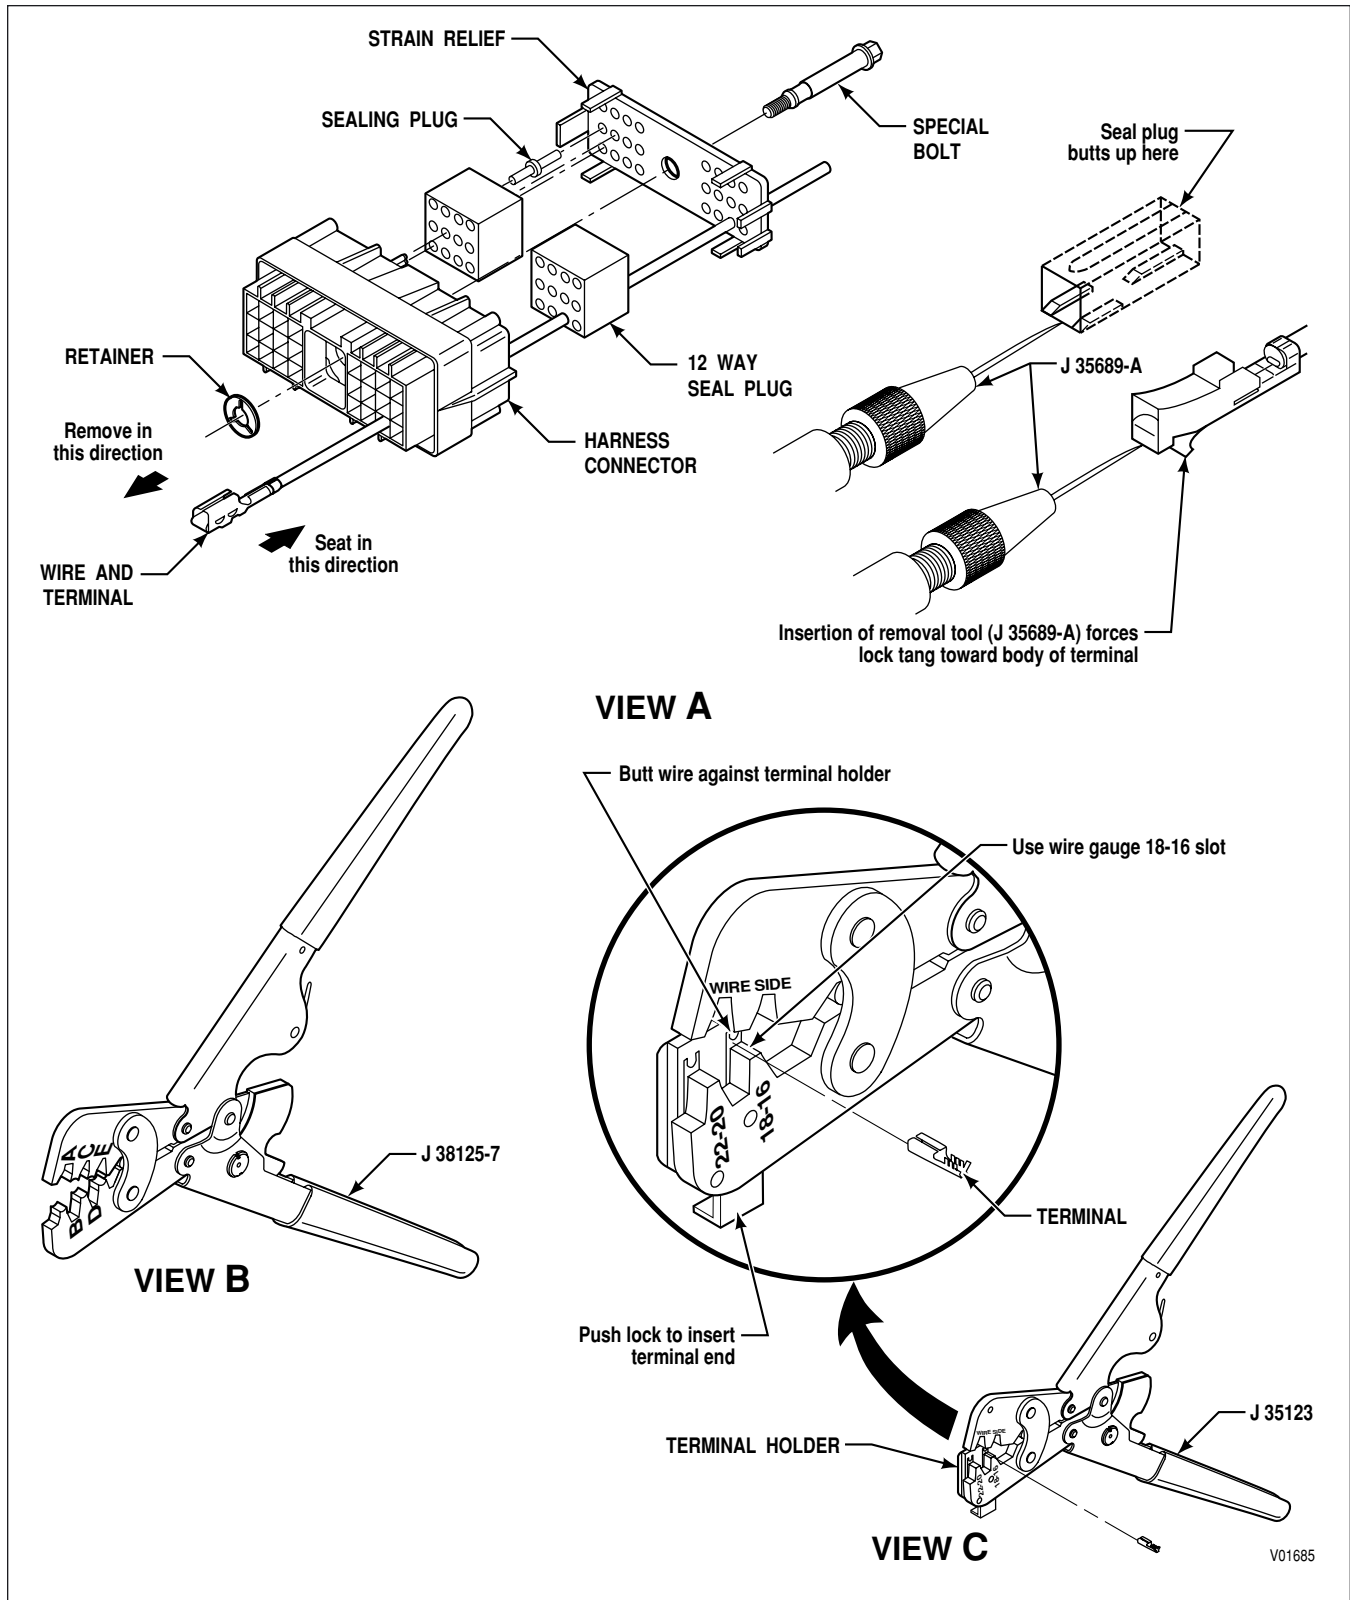

Figure C-2. Delphi-Packard Metri-Pack 150 Series Connectors—Pull-to-Seat (Speed Sensor, 30-Way and 18-Way VIM)
1. Insert needle end of terminal remover J 35689-A into the small notch between the connector and the terminal to be removed (Figure C-2, View A). Push the lock tang toward the terminal.